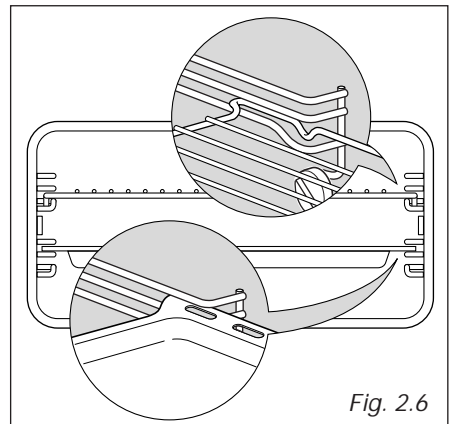

Fig. 2.6
- Slide into the guides, the shelf and the tray (fig. 2.6).